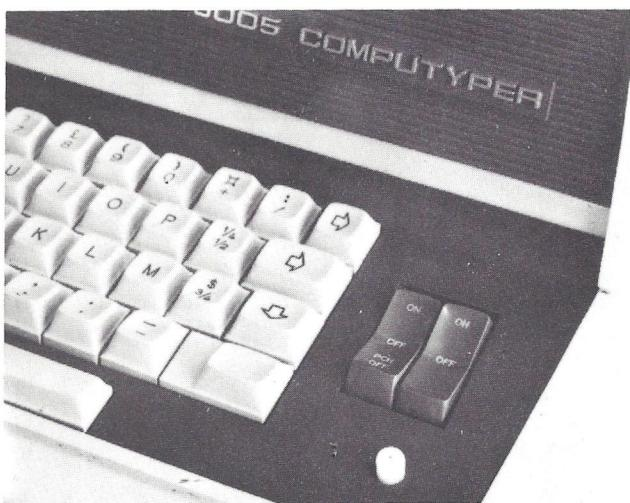

Figure 7. Safety Interlock Push Button
There are two manually-operated butterfly-type switches (see figure 7) located at the right of the keyboard.
**POWER** : It is a two-positioned switch to turn the power on or off. A Safety Interlock Push Button prevents accidental switching-off. (See figure 7)